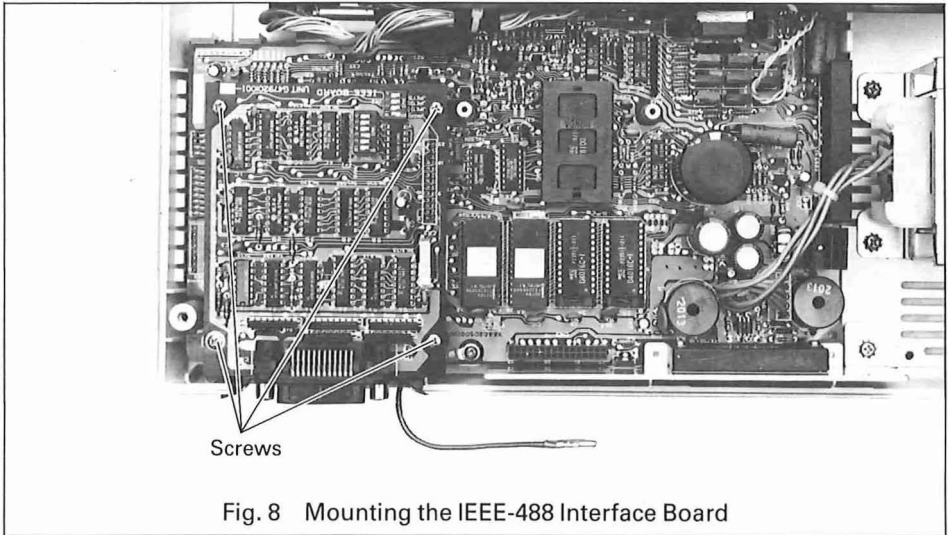

Fig. 8 Mounting the IEEE-488 Interface Board
- (8) Plug the connector of the IEEE-488 Interface Board (Cat. No. 8161) into the mating connector (CN2) on the control circuit board of the printer.
- (9) Secure the I/F Board on the four poles with the four mounting screws. (See Fig. 8.)